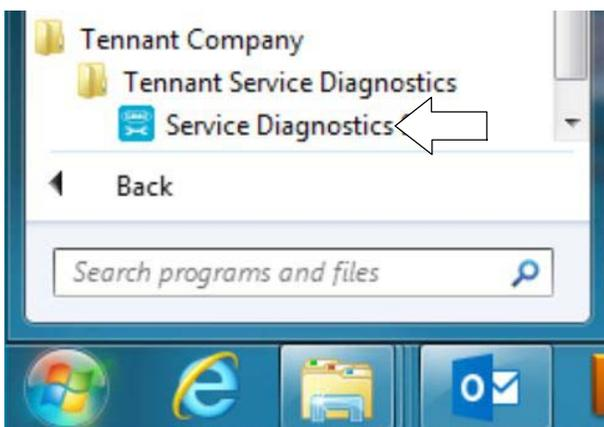

Fig. 19
For Tennant service personnel equipped with ServiceLink computers, the software is pre-installed on your computer as shown below. The software application is titled “**Service Diagnostics**” (Figure 19).
7. After the service application software is installed on your computer, refer to figure 19 to access the program.
5. After the application software is installed on your computer, refer to figure 19 to access the program.